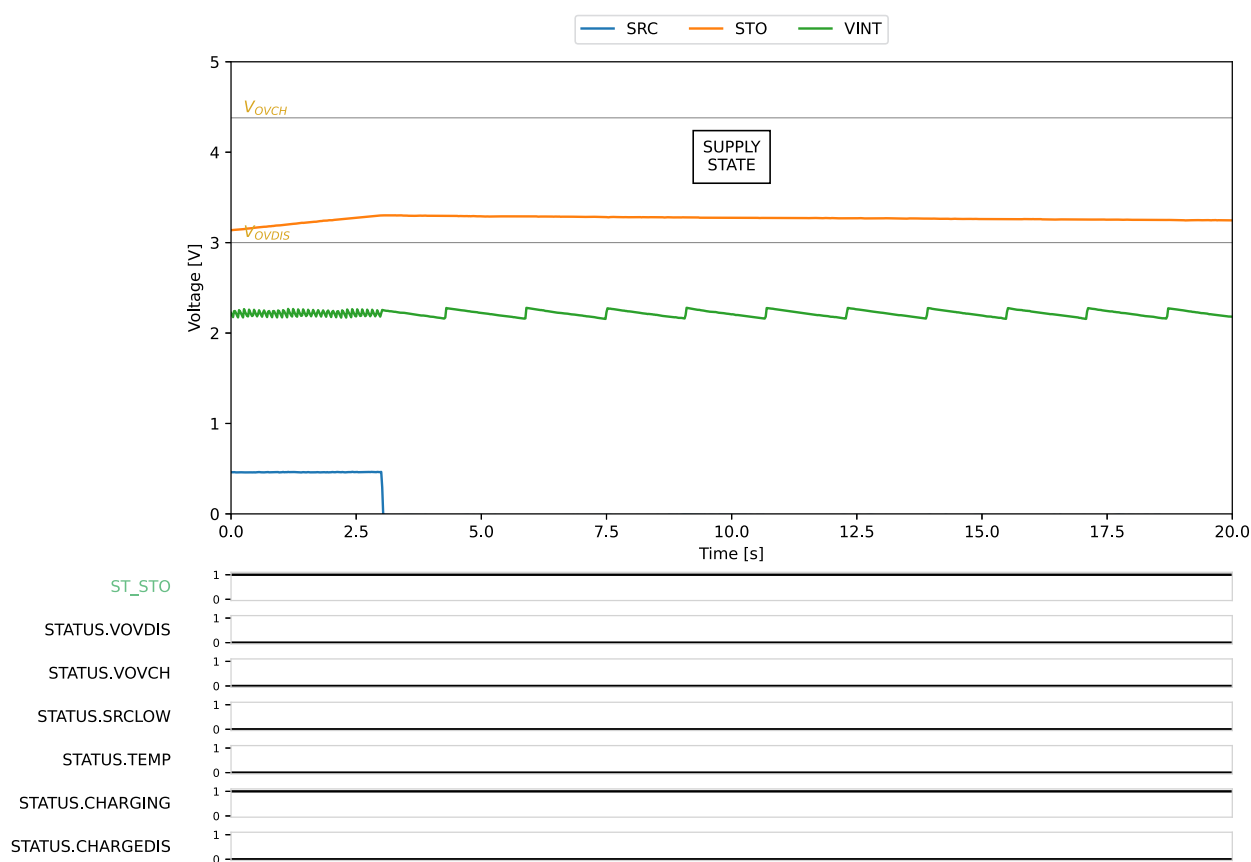
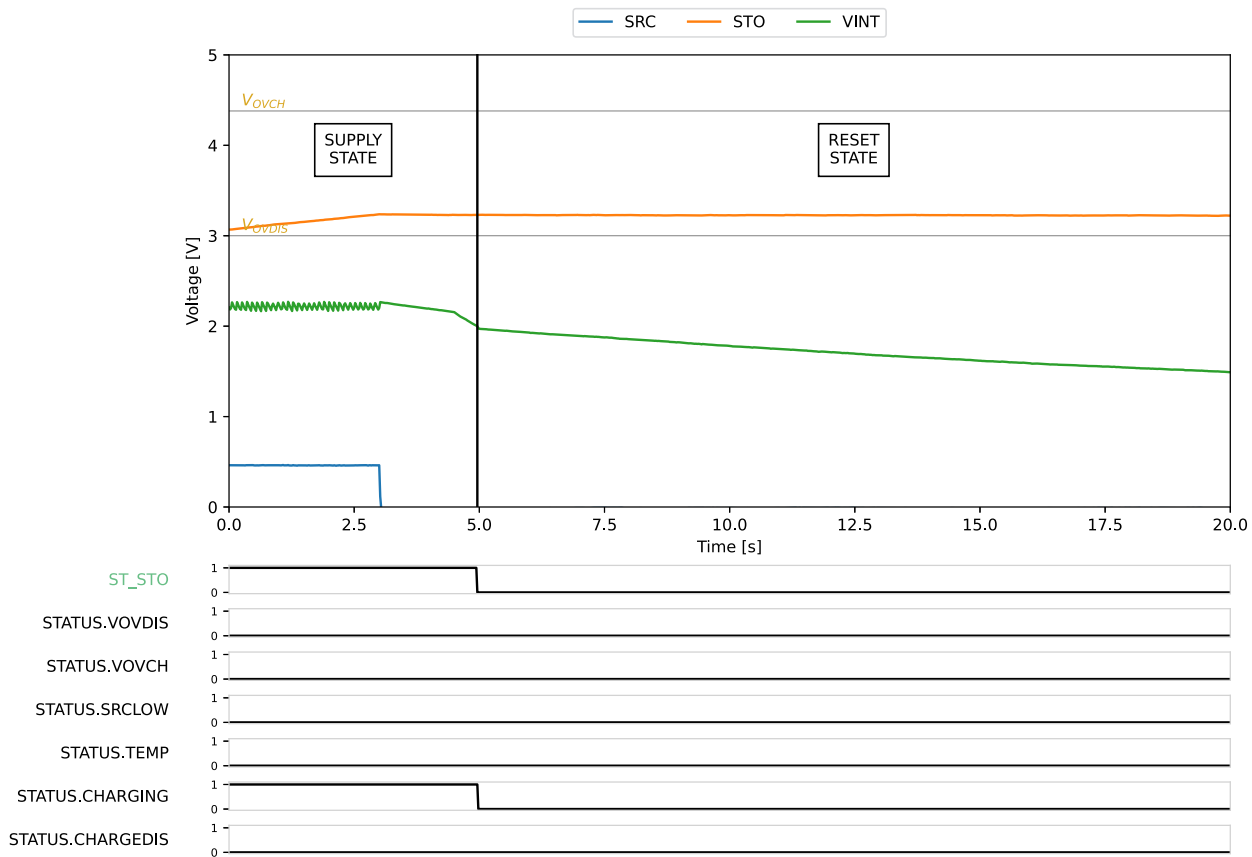

Figure 19: KEEP_ALIVE HIGH behavior
Figure 20: **KEEP_ALIVE** LOW behavior
- KEEP_ALIVE: is enabled on Figure 19 and disabled on Figure 20.
- **KEEP_ALIVE** = H (Keep-alive enabled, Figure 19): **VINT** keeps being supplied from the storage element connected to **STO**. The AEM0090x will be able to harvest again as soon as power is restored to the **SRC** pin. On the other hand, a small current is pulled from the storage element (I_{QSLEEP} , see Table 5).
- **KEEP_ALIVE** = L (Keep-alive disabled, Figure 20): **VINT** can only be supplied from the energy available on **SRC**, so as soon as the power source is switched off, **VINT** stops being supplied. Once V_{INT} falls below $V_{INT,RESET}$, the AEM0090x switches to **RESET STATE**, so that no current is pulled from the storage element. The stored energy is thus preserved. On the other hand, when power is restored to the **SRC** pin, the AEM0090x must perform a cold start to resume harvesting.